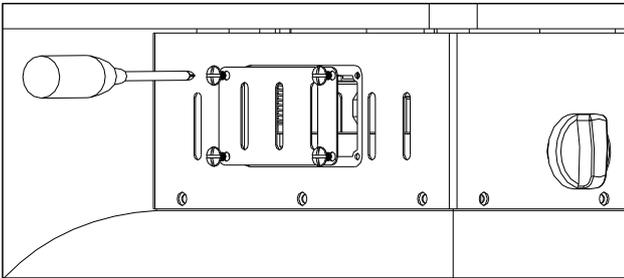

Figure1
- Pilot flame can be watched and checked from the square window with sliding lid(Figure 1&2) located at the bottom of the flame screen The pilot also can be lighted by match.